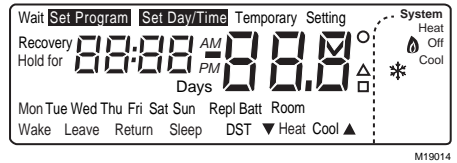

Fig. 12. Display of all LCD segments.
- To enter the installer setup, press and hold the information **i** key with the increase **▲** and decrease **▼** keys until the first number is displayed. All display segments appear for approximately three seconds before the number is displayed. See Fig. 12 and 13.